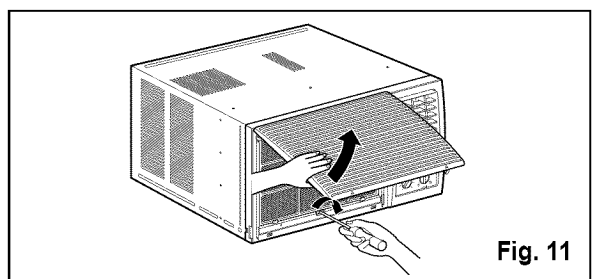

Fig. 11
14. Lift the inlet grille and secure it with a type A screw through the front grille. (See Fig. 11)